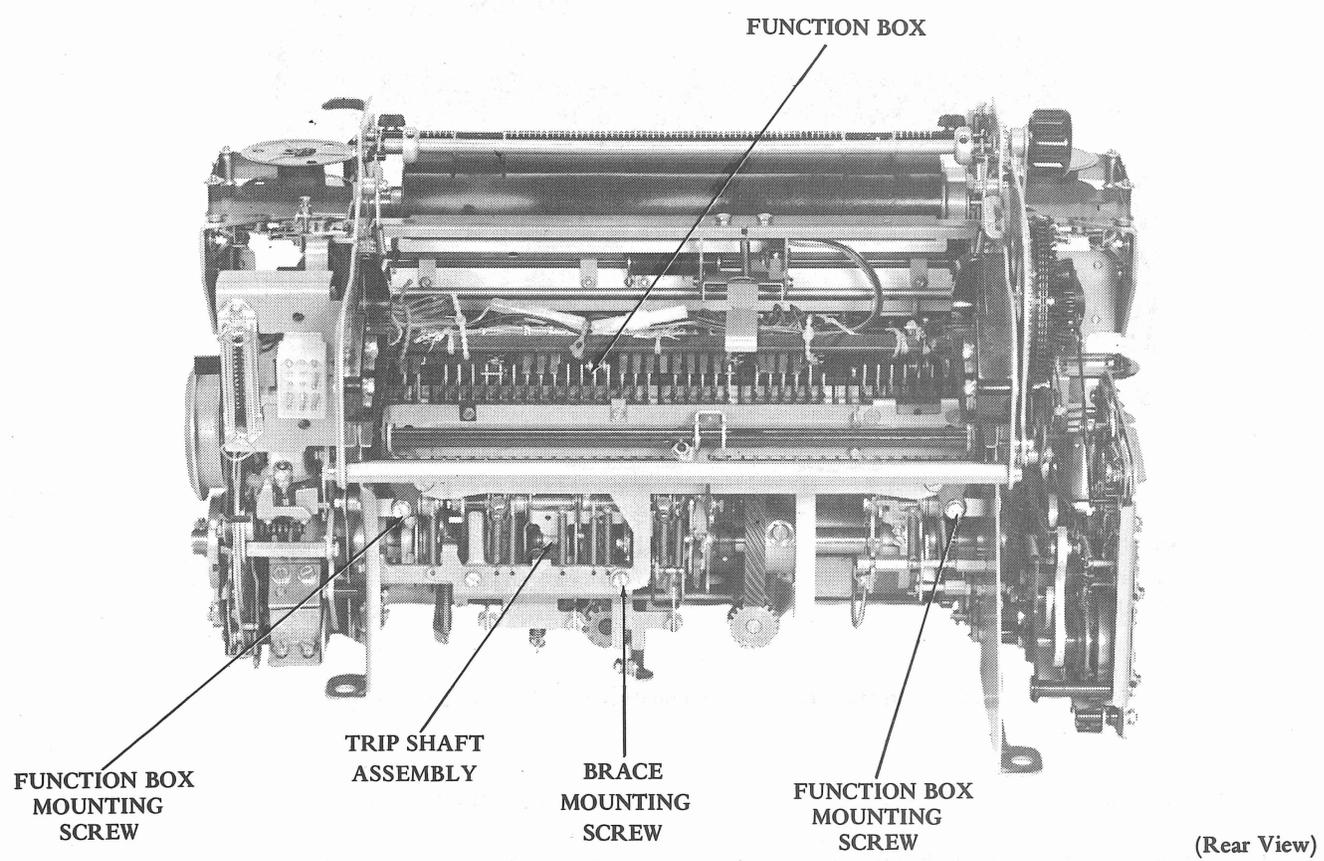

Figure 9 - Function Box and Trip Shaft Assembly – Standard Typing Unit
2.18 To remove the function box from the unit, proceed as follows (Figures 9, 10, and 11). (On units with sprocket feed, remove the paper tray.) Remove the connector mounting screws and feed connector through the side frame.
- 2.22 To replace the function box, reverse the procedure used in removal (Figures 9, 10 and 11).